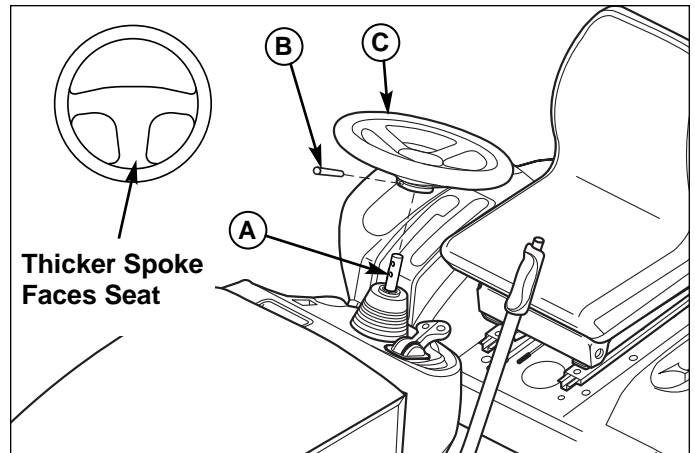

Figure 31. Steering Wheel Components
1. Use a suitable punch to remove the roll pin at the base of the steering wheel (B, Figure 31).
2. Pull down on the rubber boot to expose the two holes in the steering shaft (A).